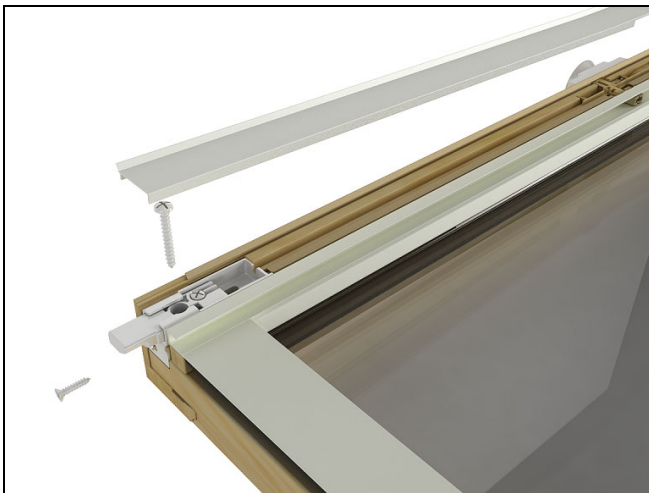

Figure 5
2. Secure the sash to work surface with clamp. Remove the vinyl check rail cover. Remove the left and right hand locking bolt screws (4 total). Do not loosen or remove the cord screw. See Figure 5.